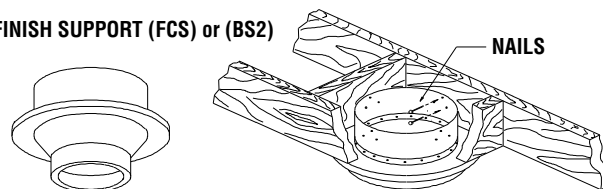

Figure 37
Step 2. From below push the support into the framed hole. Nail the support to the framed box using (12) 3" spiral nails (*see Figure 37*).